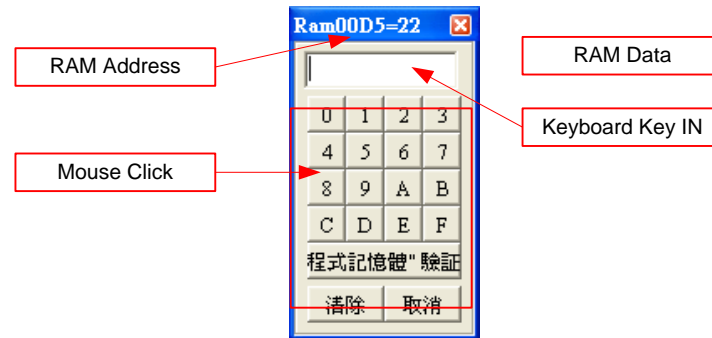

Figure 26
2. Point the cursor to the selected revised lines, double click mouse left key, a window will pop up as Figure 26 shown. Users can key in on keyboard or press the button by mouse